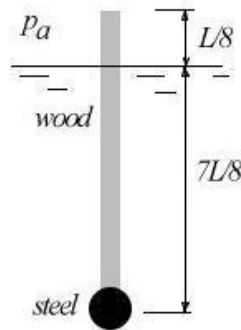

Figure P2.81
2.81 A simple buoy can be made from a weighted piece of wood, as shown in Figure P2.81. If the wood has a specific gravity of 0.75, and a cross-section $w \times w$ and a length L , find the weight of steel W attached to the bottom of the buoy such that $7L/8$ is submerged in terms of ρ (density of water), L , w and g . Neglect the volume of the steel.